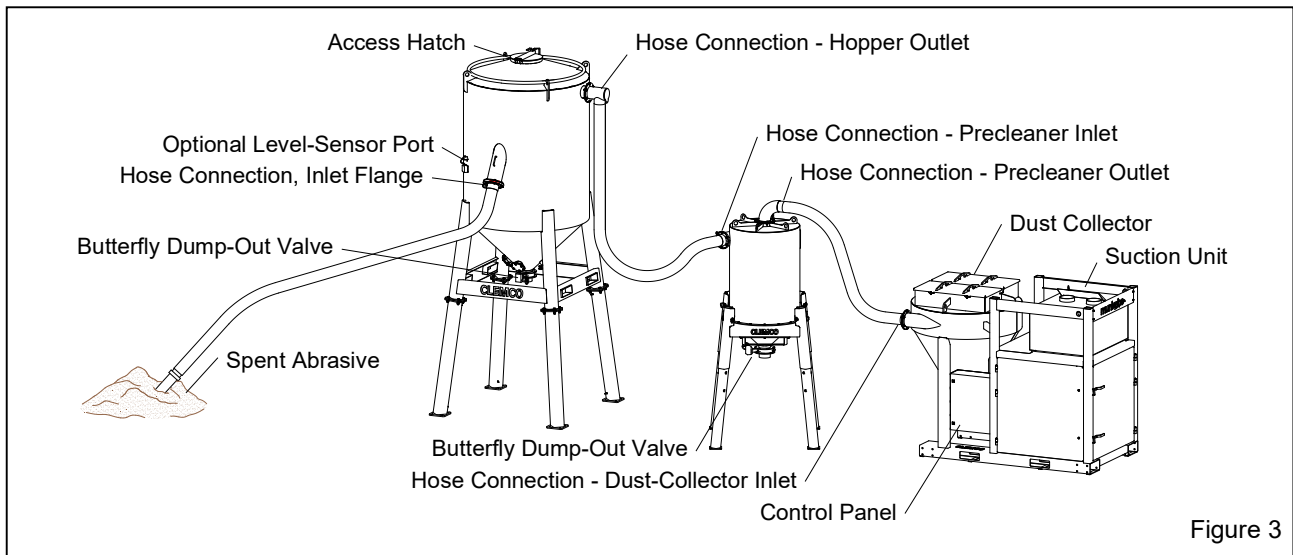

Figure 3
1.6 System Components and Functions – Figure 3
2.2.1.2 Place a hose clamp over one end of an interconnecting hose, as shown in Figure 5. Note: The hose connection shown in Figure 5 is for the optional precleaner. Use the same method to connect the hose to the bottom of the angled outlet connection (shown in Figure 3) on the recovery storage hopper.